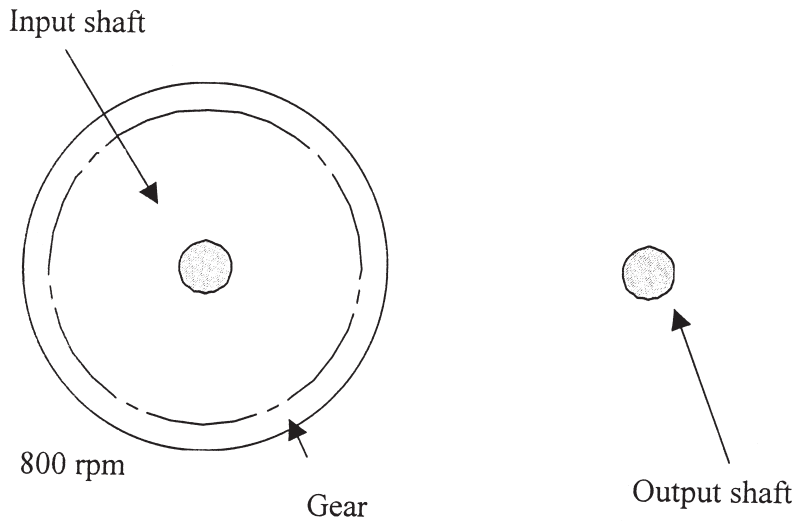

Figure 7
- (d) Complete the gear system, shown in **Figure 7**, that would allow the output shaft to rotate at 400rpm and in the same direction as the input shaft.
Indicate on **Figure 7** the number of teeth on each gear used in your solution.